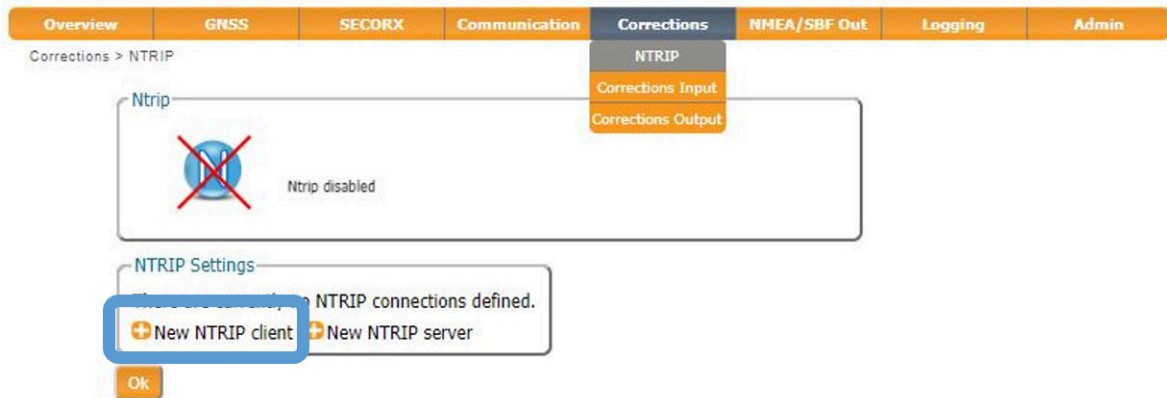

Figure 4-3: NTRIP tab of the Web Interface
1. On the **Corrections/NTRIP** window, click on **New NTRIP client** as shown in Figure 4-3